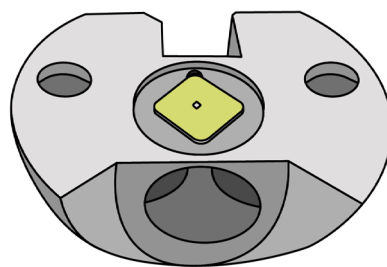

Figure 7. Fluid cell with chip in place.
6. Place the chip with the cavity side facing down into the square depression in the fluid cell (Figure 7).